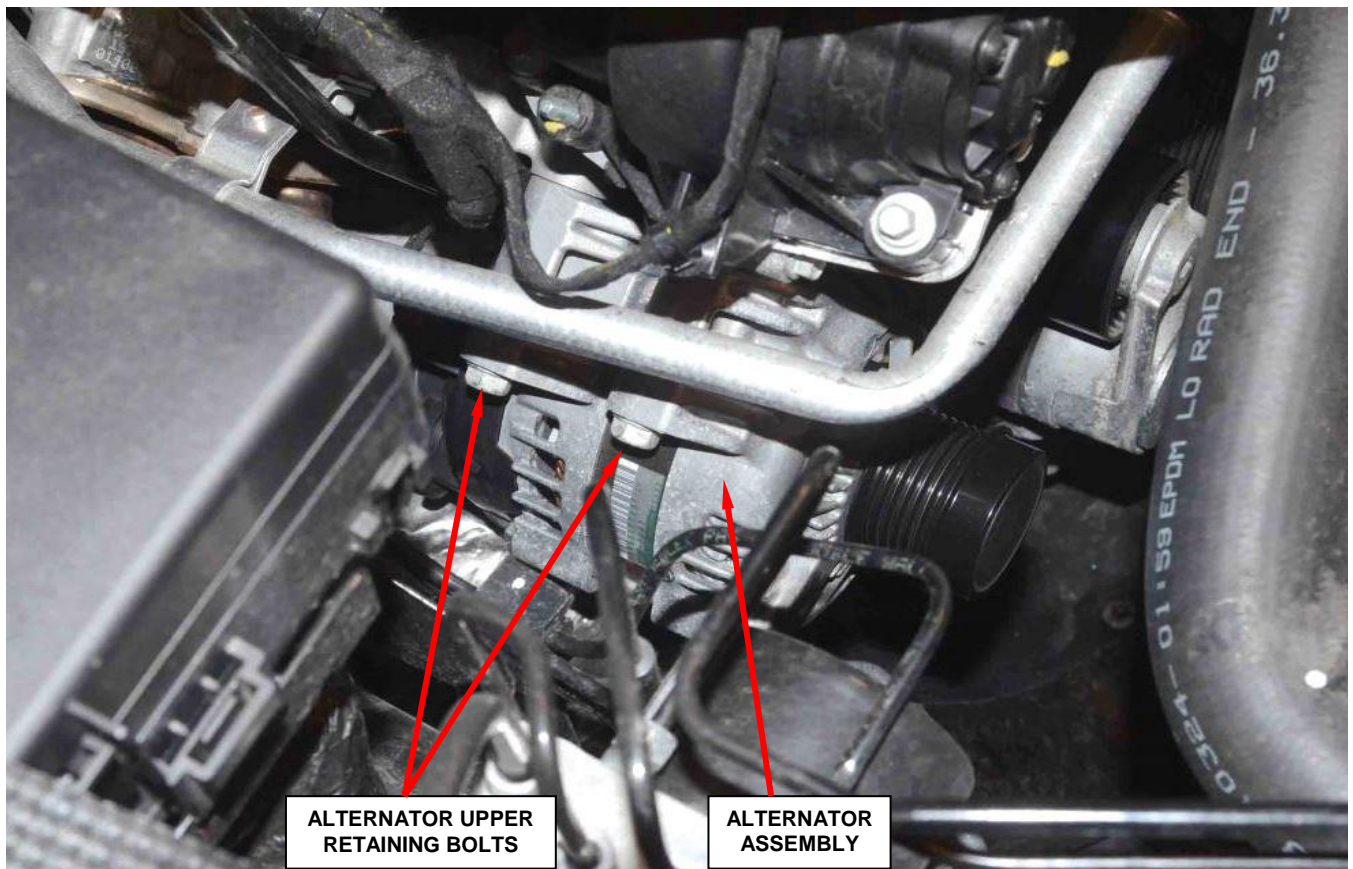

Figure 2 – Alternator Upper Retaining Bolt
3. Remove and save the alternator upper retaining bolts (Figure 2).